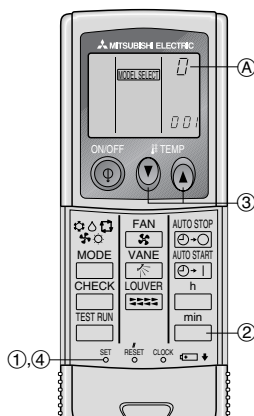

Fig. 6-7
4) Assigning a remote controller to each unit (Fig. 6-7)